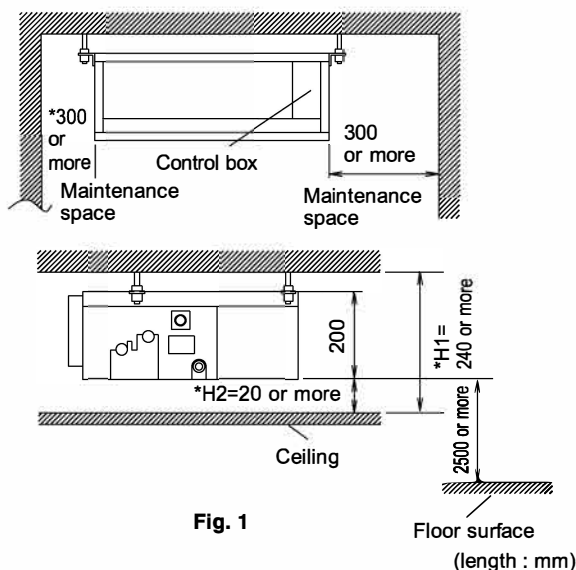

Fig. 1
- Where sufficient space available for future maintenance and service.(Refer to Fig. 1)